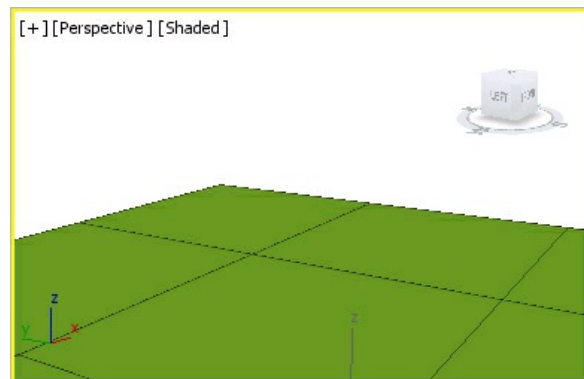

Figure 4-72 The floor geometry in the Perspective viewport
6. Activate the Perspective viewport and press the G key to hide grids in it. Also, set the view using the **Zoom** and **Orbit** tools, as shown in Figure 4-72.